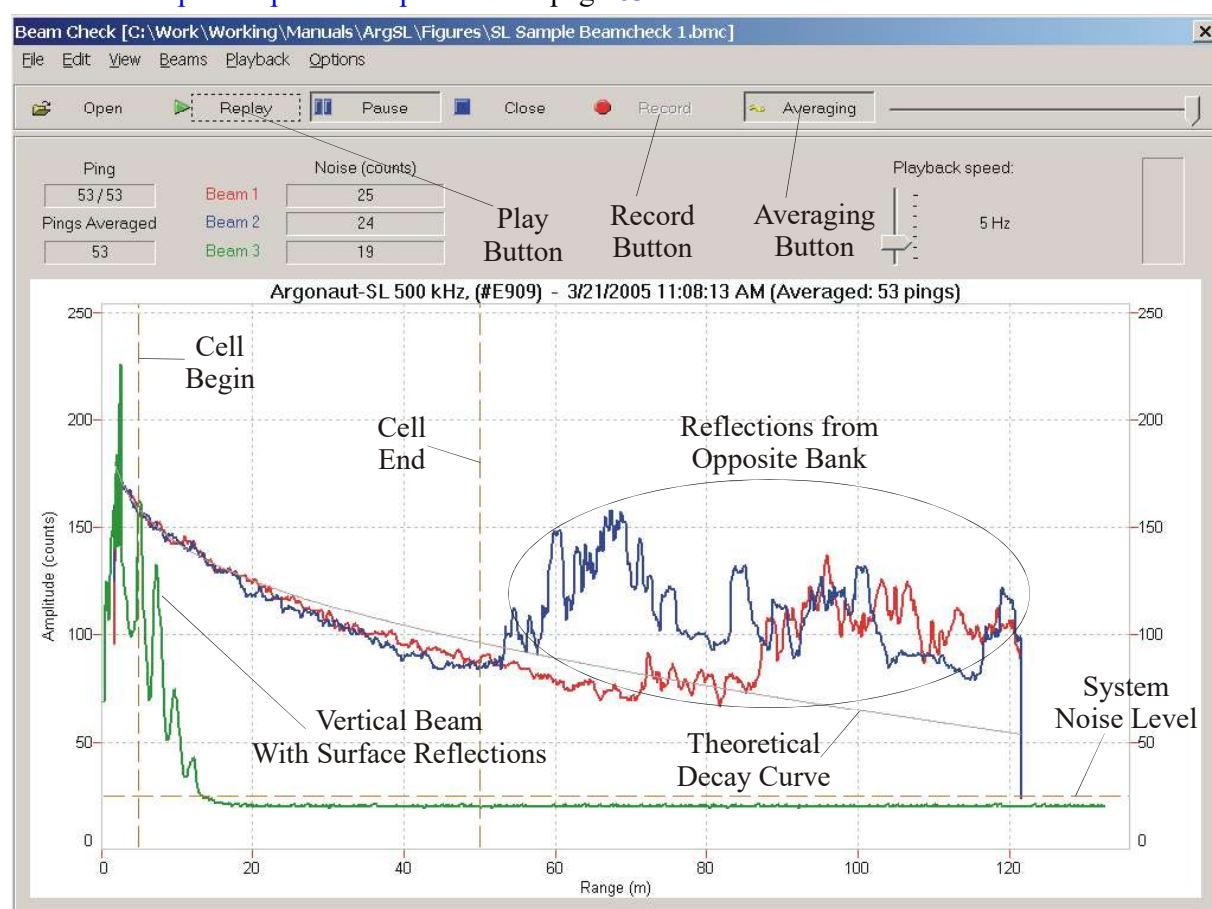

Figure 5-22. Beam Check Sample Output #1
5. Allow the SL to collect at least 20 pings of data. Figure 5-22 shows a sample output with the SL deployed looking across a natural river with the opposite bank starting about 50 m away. See Sample Output Description #1 on page 63.
Figure 5-22 (*Beam Check* in *SonUtils*) shows a sample output from an SL installation. Detailed analysis of this example is given here. For other examples, see Sample Output Description #2 (page 64) and Sample Output Description #3 (page 66).
- Acoustic signal strength is an indicator of the maximum measurement range of the system. In this example (Figure 5-22), the signal strength is well above the noise floor for the entire measurement range.